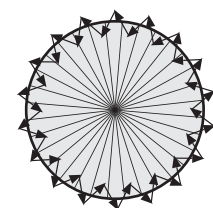

FIG.14
- Walk from outside across to the detection pattern until LED turns on for approx. 2sec then off, the next trigger should be 2sec interval (See FIG.14).